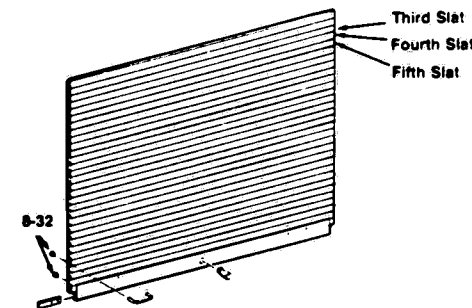

Figure 4-3. REMOVAL OF REGULAR SLATS.
5. Counting down from top of roll-up door (Figure 4-3) pull out the fourth slat.